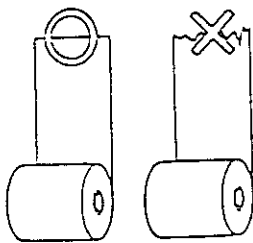

Fig. 2
3. Before you install a new paper roll, the paper end should be cut with a knife or scissors for easy insertion.(Fig. 2)